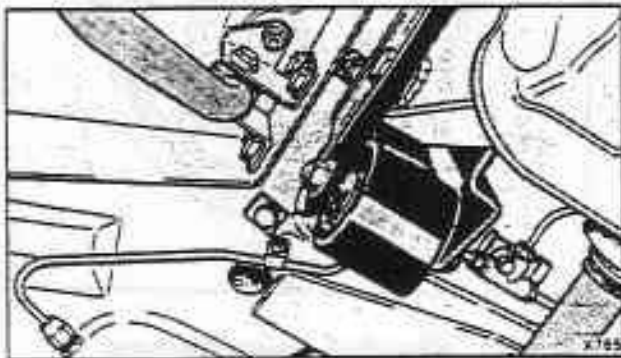

Fig. H8-4 Final drive crossmember mount (left-hand shown)
Final drive crossmember mounts - To remove (see fig. H8-4)
8. To remove the left-hand mount (see fig. H8-4), remove the two mounting plates connecting the final drive crossmember to the rubber mount.